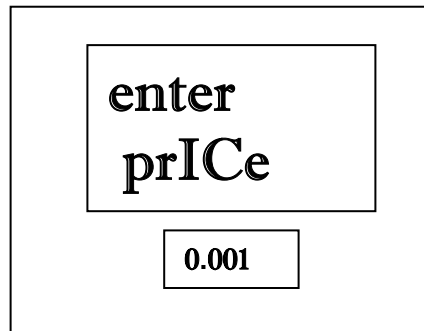

Figure 9
1. Use the 0 through 9 buttons on the keypad to enter the price. See figure 9.